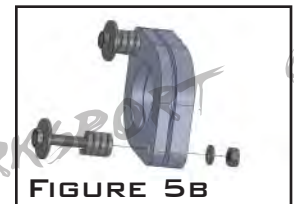

FIGURE 5B
B) SWING THE TAILPIPE SECTION OF THE EXHAUST REARWARD OUT OF THE WAY AND PIVOT THE RACEPIPE UP TO MATCH THE DONUT GASKET INTO THE FACTORY TAILPIPE FLANGE. RUN THE BOLTS AND NUTS THROUGH THE TWO FLANGES USING THE STACKUP SHOWN IN FIGURE 5B. THIS STACKUP ALLOWS YOU TO PUT PRESSURE ON THE BOLT SIDE OF THE ASSEMBLY TO COMPRESS THE SPRINGS WHILE STARTING THE NUTS OVER THE TOP OF THE STANDARD FLAT WASHERS.